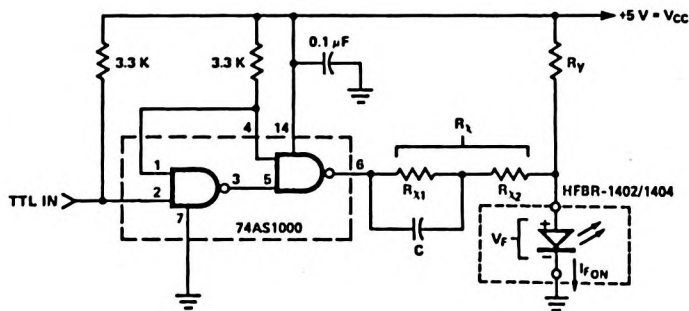

Figure 4. Recommended Drive Circuit
1. Pre-bias is recommended if $I_F < 30$ mA, see recommended drive circuit in Figure 4.
Rise and fall times can be improved by using a pre-bias current and "speed-up" capacitor. A pre-bias current will significantly reduce the junction capacitance and will not change the extinction ratio appreciably. The recommended TTL compatible drive circuit in Figure 4 using a speed-up capacitor will provide typical rise and fall times of 4 ns. The following set of equations will give the component values for the circuit for different transmitter drive current: